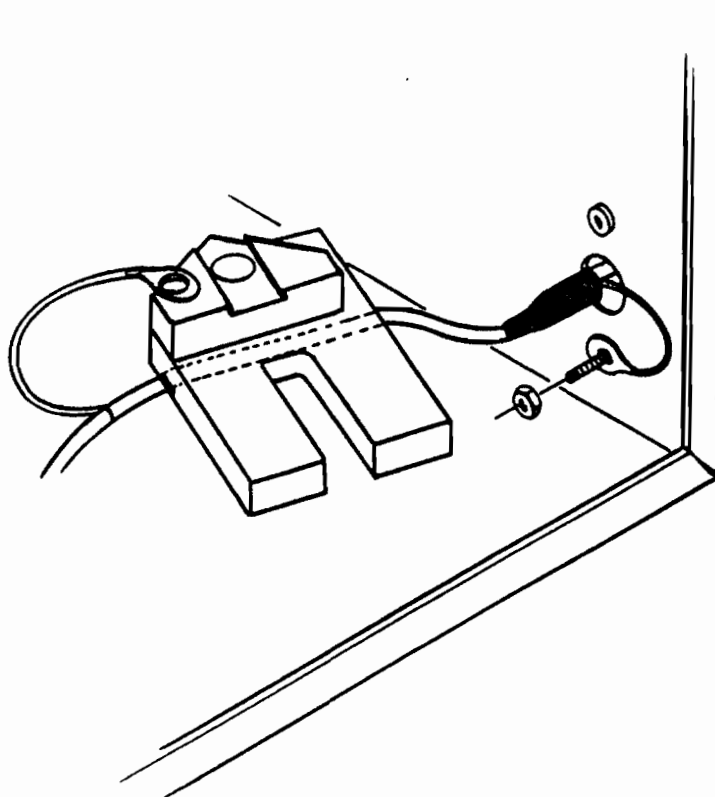

Figure 9-5. Installation of Cables in the LC-17A
2. Find the cable in your kit with the attached metal bracket. At one end of the cable will be red, white, and black wires, and a green grounding lug. Take these and route them through the rear panel of the LC-17A chassis and through the groove under the cell support. See Figure 9-5.